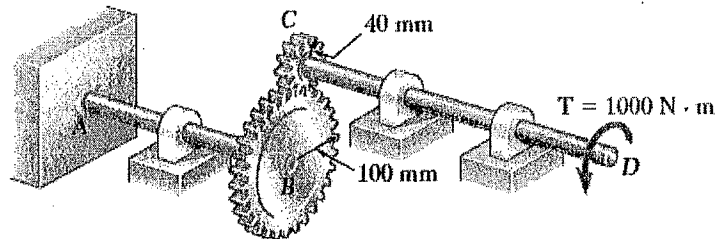

Figure 2 (b)
- b. A torque of magnitude $T = 1000 \text{ Nm}$ is applied at D as shown Figure 2 (b). If the diameter of shaft AB is 56 mm and that the diameter of shaft CD is 42 mm , determine the maximum shearing stress in